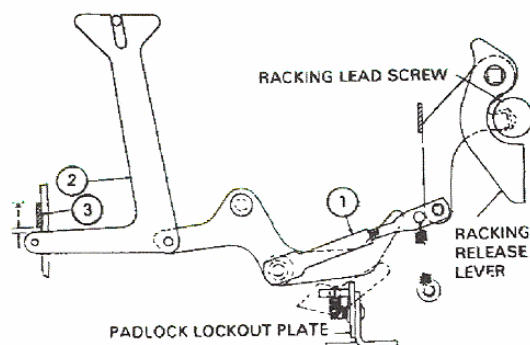

Fig. 8 - Racking Mechanism
5.11 RACKING MECHANISM (See Figure 8)